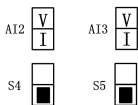

Figure 3-15 Configuring Current Modes with S4 and S5
When selecting analog current signal input on terminals AI2 and AI3, configure current mode through switches S4 and S5 of the terminal block. See Figure 3-15 for detail.
3.3.4 Wiring of Terminals AI2 and AI3 (as shown in Figure 3-15)